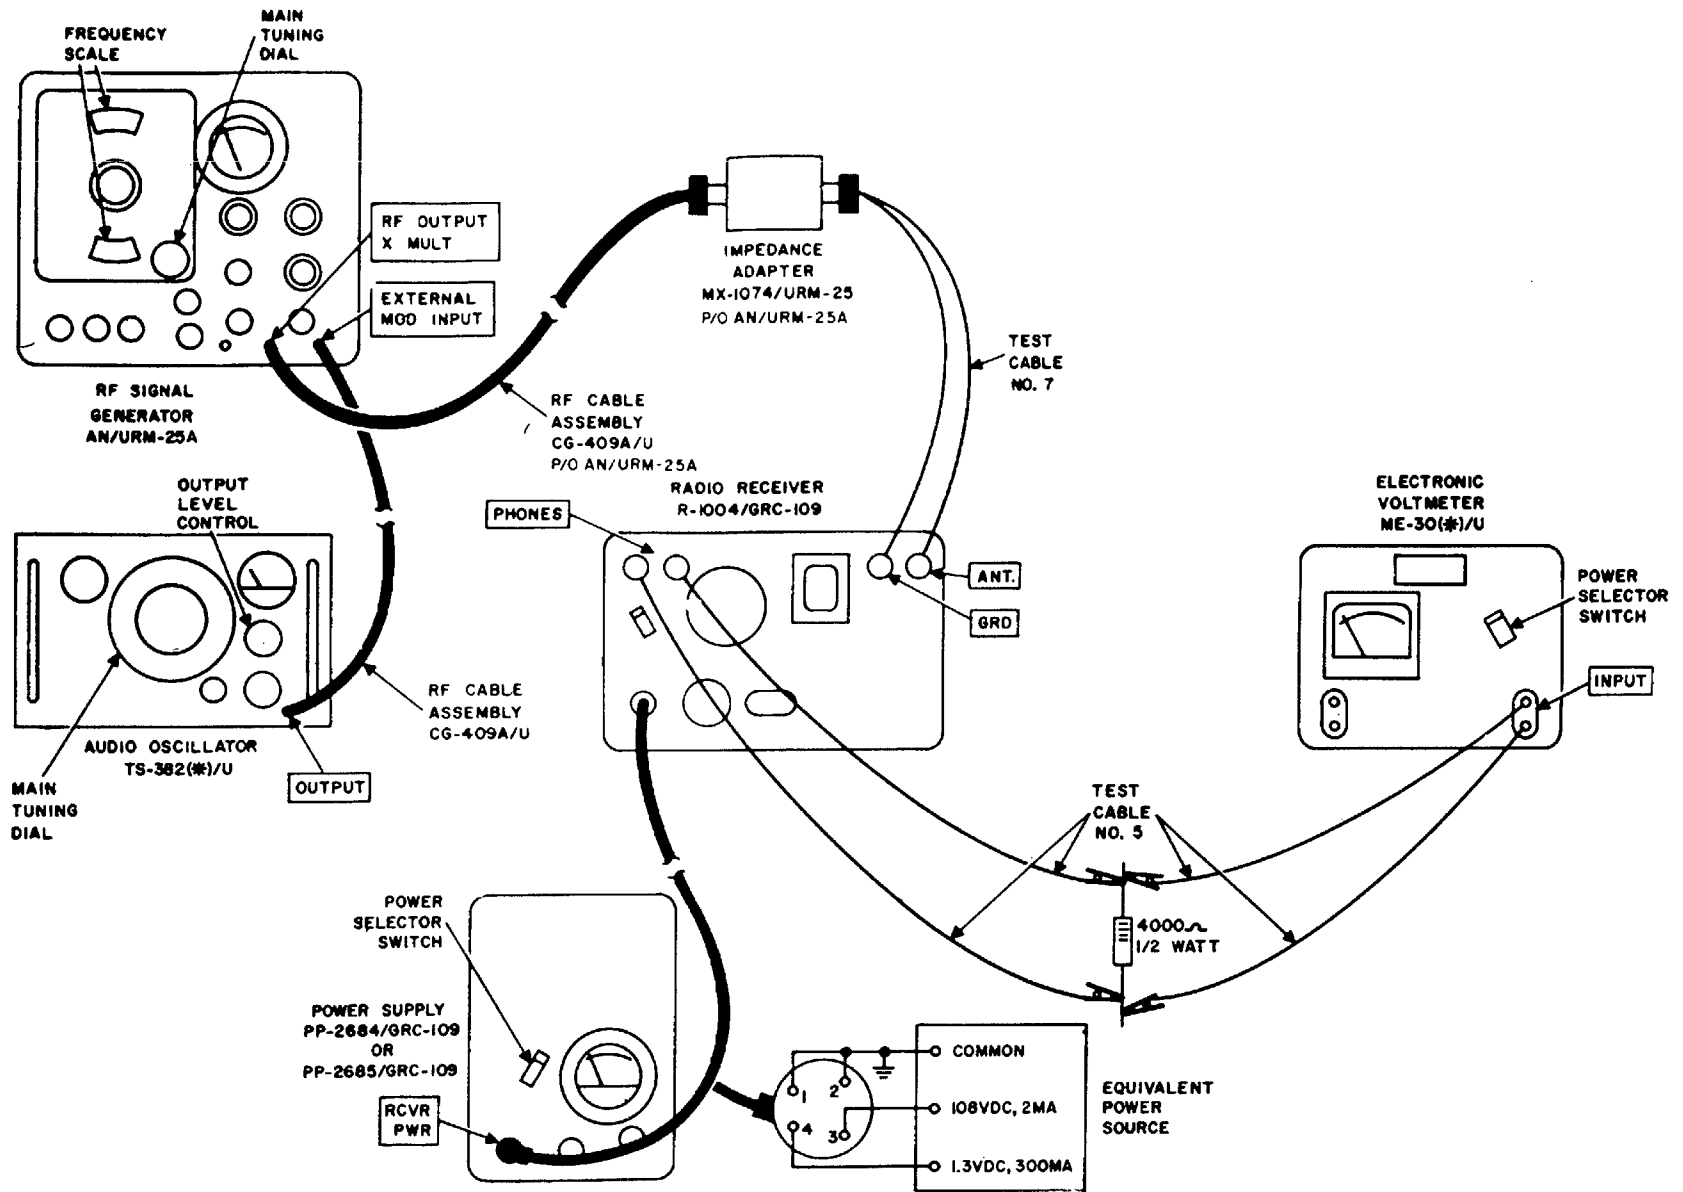

Figure 59. Receiver audio response test.
- Test Cable No. 5 (4)
b. *Test Connections and Conditions.* Connect the equipment as shown in figure 59. Turn on all equipment and allow a 15-minute warm up before proceeding.